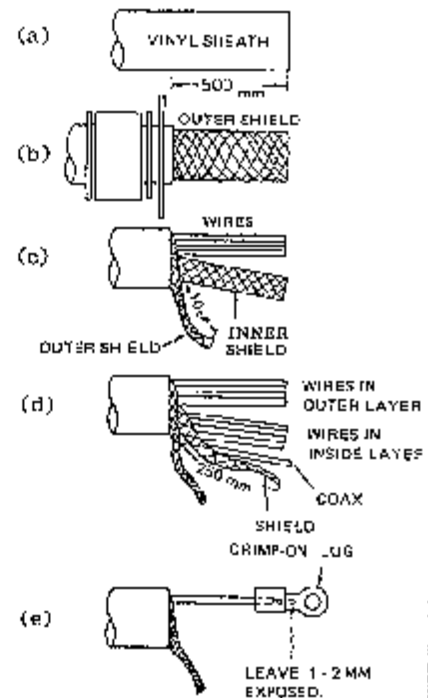

Fig.5 Fabrication of Multicore Cable
4. Cut the cable leaving about 800mm from the cable gland, and fabricate it referring to Fig.5.
1. Being careful not to cut the outer shield, remove 500mm of the vinyl sheath. See Fig.5(a).
2. Slide washer, rubber packing, washer and clamp plate of the gland over the cable. See Fig.5(b).
3. Straighten the outer shield and separate the outer layer wires from those inside the braided shield (inner wires). See Fig.5(c).
4. Take out the wires and coaxial wire from the inside layer. See Fig.5(d).
7. Remove about 5mm of the vinyl insulation from the end of each wire. Fix crimp-on lug FV1.25-3 (red) to each wire by using a crimping tool. See Fig.5(e).